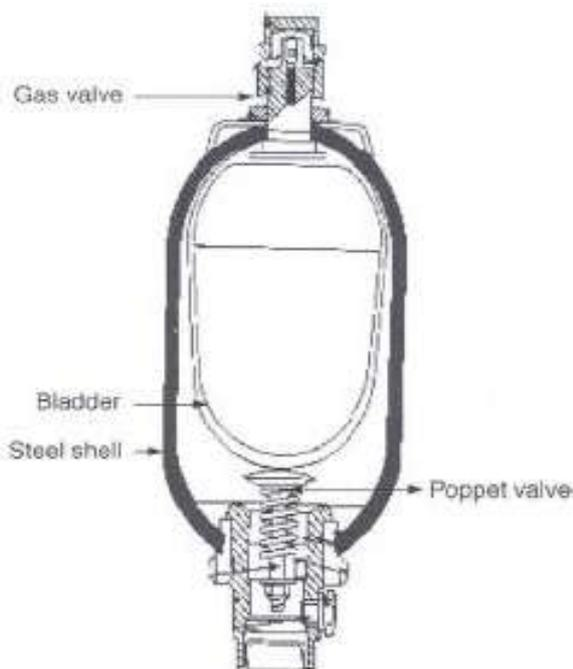

Figure 4
b. Bag-Type Accumulator. This accumulator Figure 4 consists of a seamless, high-pressure shell, cylindrical in shape, with domed ends and a synthetic rubber bag that separates the liquid and gas (usually nitrogen) within the accumulator. The bag is fully enclosed in the upper end of a shell. The gas system contains a high-pressure gas valve. The bottom end of the shell is sealed with a special plug assembly containing a liquid port and a safety feature that makes it impossible to disassemble the accumulator with pressure in the system. The bag is larger at the top and tapers to a smaller diameter at the bottom. As the pump forces liquid into the accumulator shell, the liquid presses against the bag, reduces its volume, and increases the pressure, which is then available to do work[5].